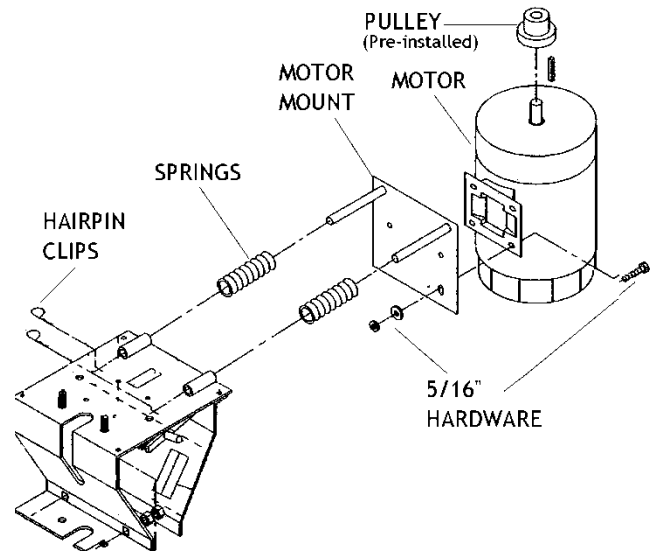

Fig. 18 – Motor installation
- 26 Slide springs from hardware sack onto each rod on motor mount(s). See Fig. 18.
- 27 Bolt appropriate motor for each carriage onto motor mount with motor pulley facing up. Use 5/16" x 1" bolts and 5/16" flat washers, lock washers, and nuts and tighten with 1/2" wrench. See Fig. 18.
- 28 Slide motor mount rods through tubes welded onto carriages from outside of carriage. See Fig. 18.
- 29 Attach motor mount to carriage by inserting hairpin clips from hardware sack into holes on ends of motor mount rods. See Fig. 18.